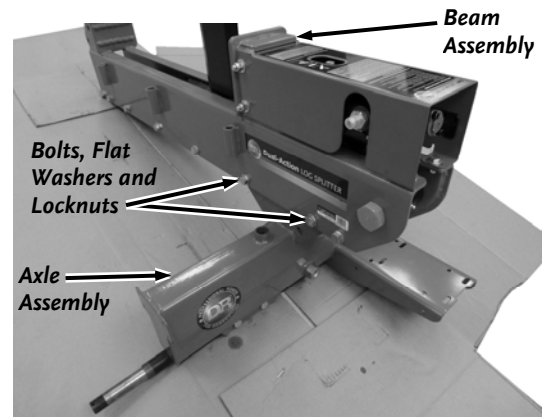

Figure 4
2. Set the Beam assembly onto the Axle assembly and align the holes (**Figure 4**).